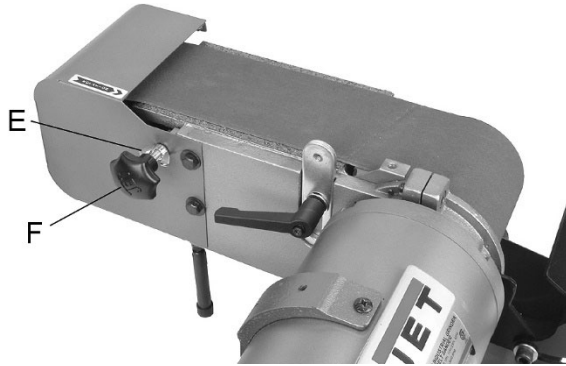

Figure 8-2: belt tracking
1. Install stand-off (shown installed in Figure 8-2) into threaded hole in back of sanding arm.
3. Loosen wing nut (E, Figure 8-2).
4. Turn knob (F) while moving the belt until belt completely covers drive wheel and stays centered. Turn handle clockwise to shift belt to the right (away from grinder), counterclockwise to shift belt to the left (toward grinder). NOTE: This adjustment is sensitive, turn handle in small increments and allow belt to respond to changes.
5. Tighten wing nut (E) to secure setting.